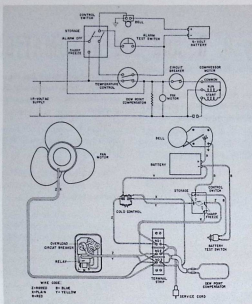

FIGURE 10
7. Connect the leads from the fan motor and relay to the terminal strip. Figure 10 shows correct wiring connections.